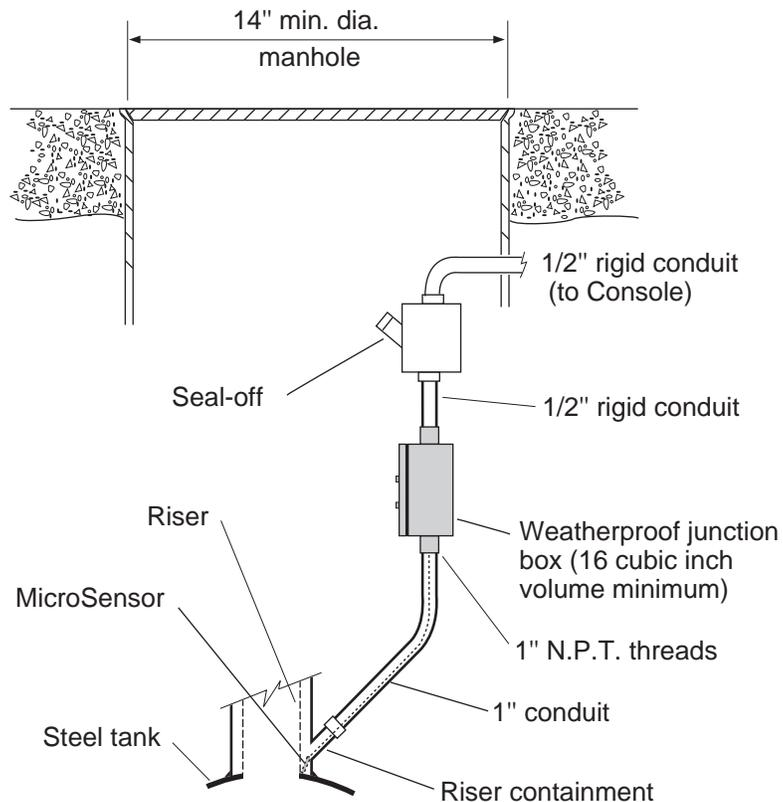

Figure 2. MicroSensor Installation - Containment Riser
3. Install the sensor in the conduit by pushing the cable until it cannot be pushed any further. When fully inserted, you should be able to feel the sensor contact the bottom of the containment riser (see Figure 2). To function correctly, the sensor must rest as close as possible to the bottom of the riser annulus. The MicroSensor uses a stiff cable to provide the required stiffness for ease of installation.